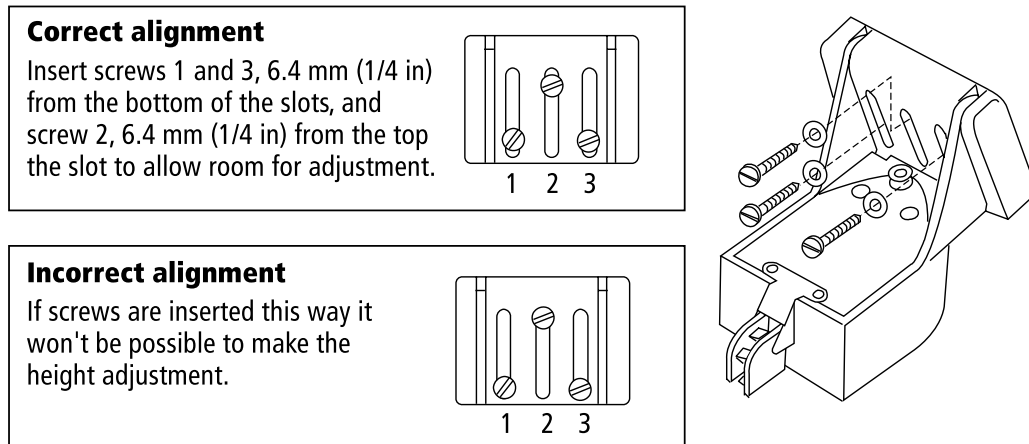

Figure 2-8: Position of Screws in Mounting Bracket
2. Looking at the rear of the boat, be sure the bracket is vertical (perpendicular to the water line) and hold the bracket (plus the wedge, if used) against the transom. Trace the position of the screw slots, then mark the screw positions as shown in Figure 2-8 . The outer two screws should be placed about $1/4$ " (6 mm) up from the bottom of each slot, the center screw should be placed about $1/4$ " (6 mm) down from the top. This will allow the bracket to be adjusted up or down. Remove the bracket.